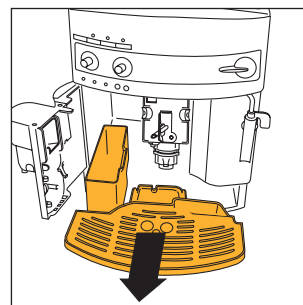

Fig. 16
**NOTE 7:** the machine counts the number of cups of coffee made. Each 14 single cups (or 7 double cups), the  light switches on steady (chap. 12 point 3), warning the user that the grounds container is full and must be emptied and cleaned. Until the grounds container has been cleaned, the light will remain on and the machine cannot deliver coffee. To clean the container, open the service door on the front (pulling the handle, Fig. 15), the  light flashes (see para 12 point 9); remove the drip tray (Fig. 16), empty and clean. Empty and carefully clean the grounds container, making sure to remove all the residues that may be deposited on the bottom. Also dry the any drops of condensate that may have formed inside the machine under the drip tray. **IMPORTANT: when removing the drip tray, the grounds container MUST be emptied, even if it is not completely full. If this is not done, when next making coffee the grounds container may fill over the maximum level and block the machine with lumps of coffee grounds.**
- remove the drip tray and the grounds container (Fig. 16) and clean them;